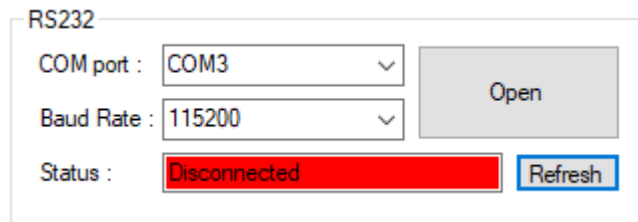

Figure 4. RS232 setup – disconnected
1. When running the AT GUI program, the connection status is red (not connected). If the program does not detect any COM port, click the **Refresh** button to refresh the COM port, see Figure 4.